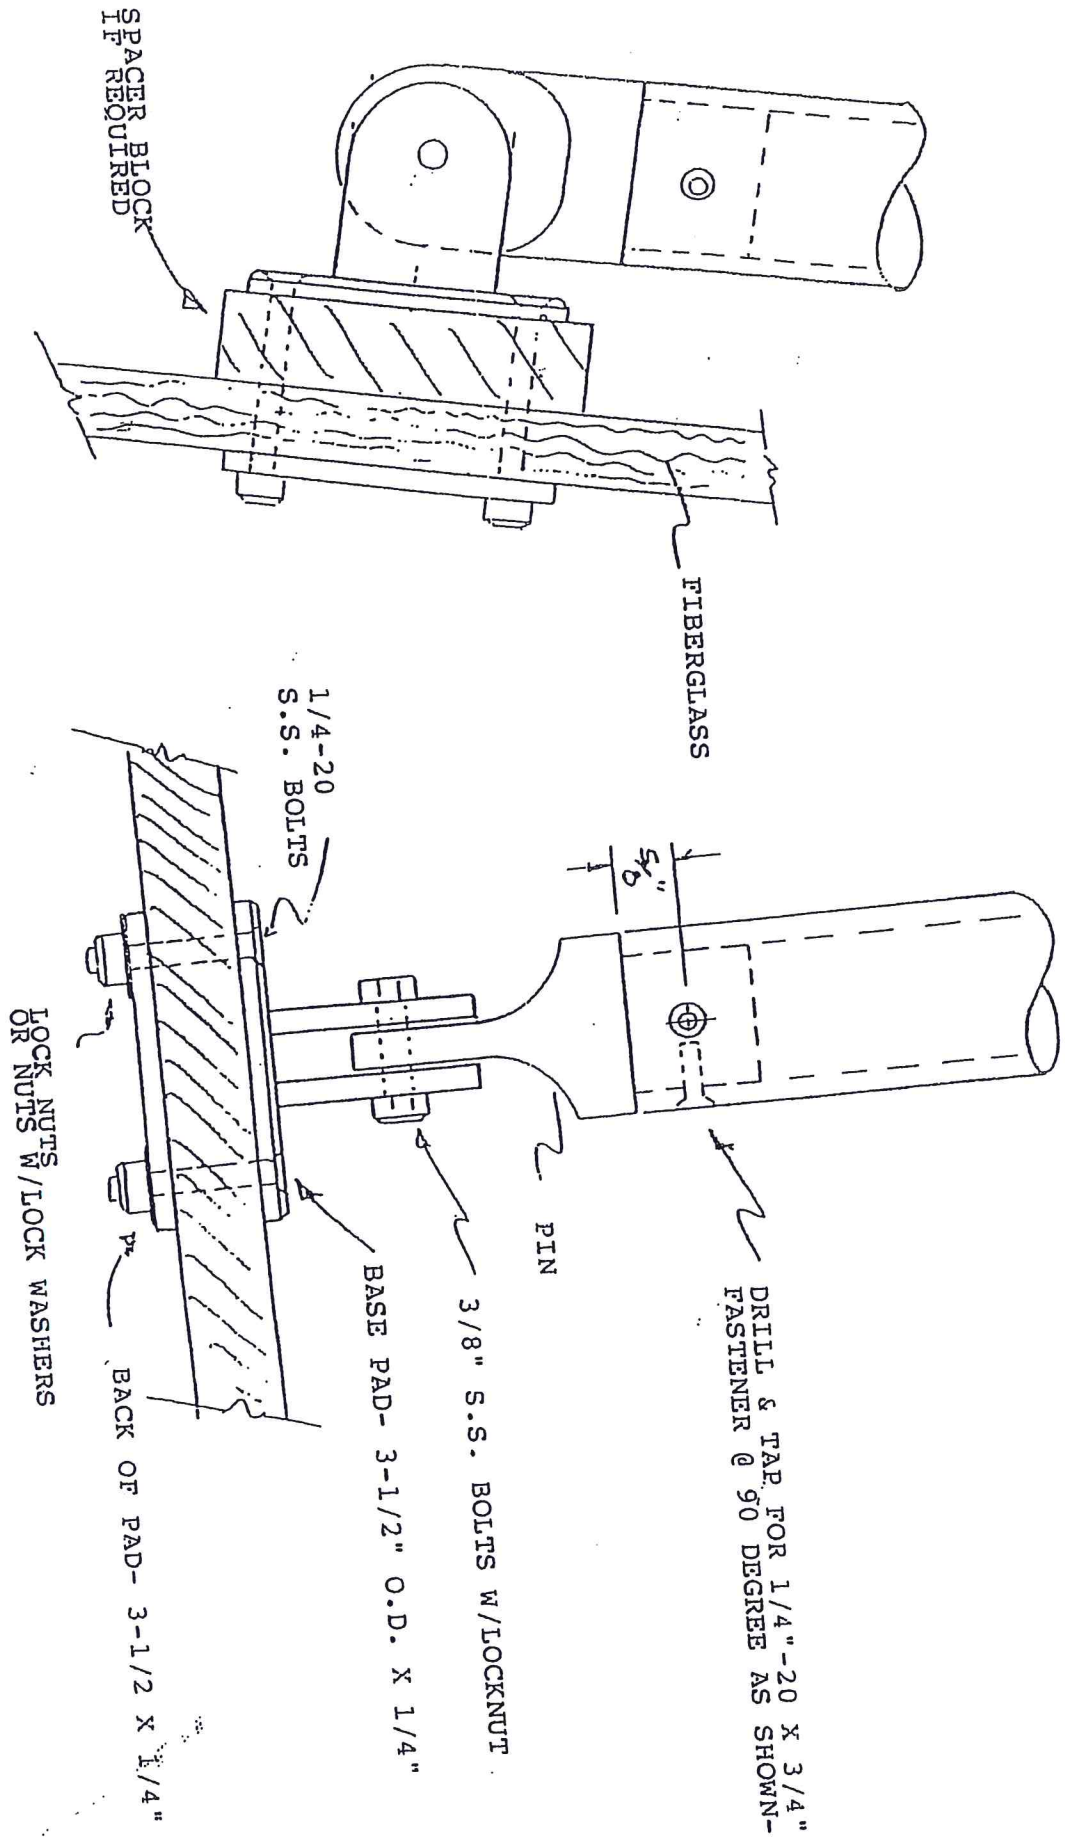

FIGURE 3
- 8) MARK LOCATIONS OF PADS AND INSTALL USING FIGURE 3.